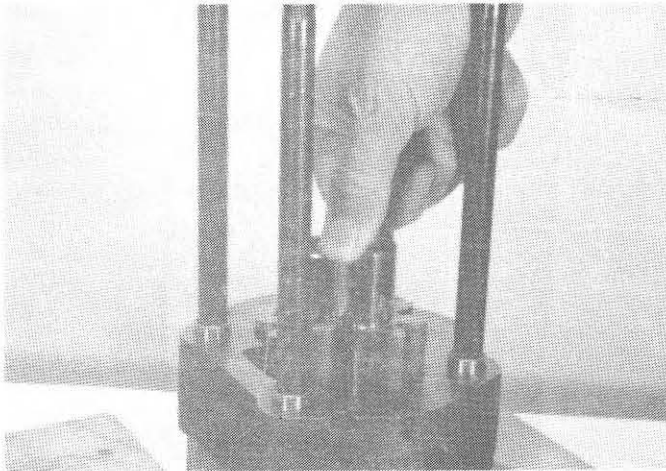

FIG. 14
16. Remove pressure plate (13) and o-ring (12) from the journal bores in the pressure plate.
17. Grasp the idler and drive gear shafts (15) and (14) and lift them out of the gear plate. (Fig. 14)